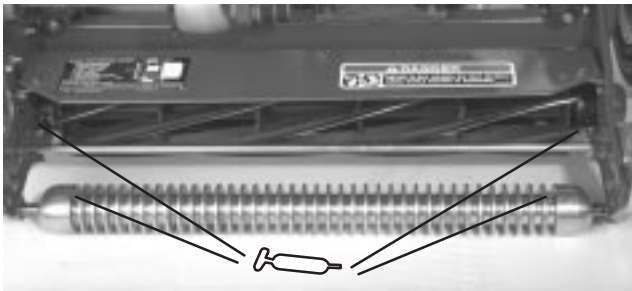

Figure 25
- 2 on the front roller (Fig. 25)
- 2 on the reel bearings (Fig. 25)